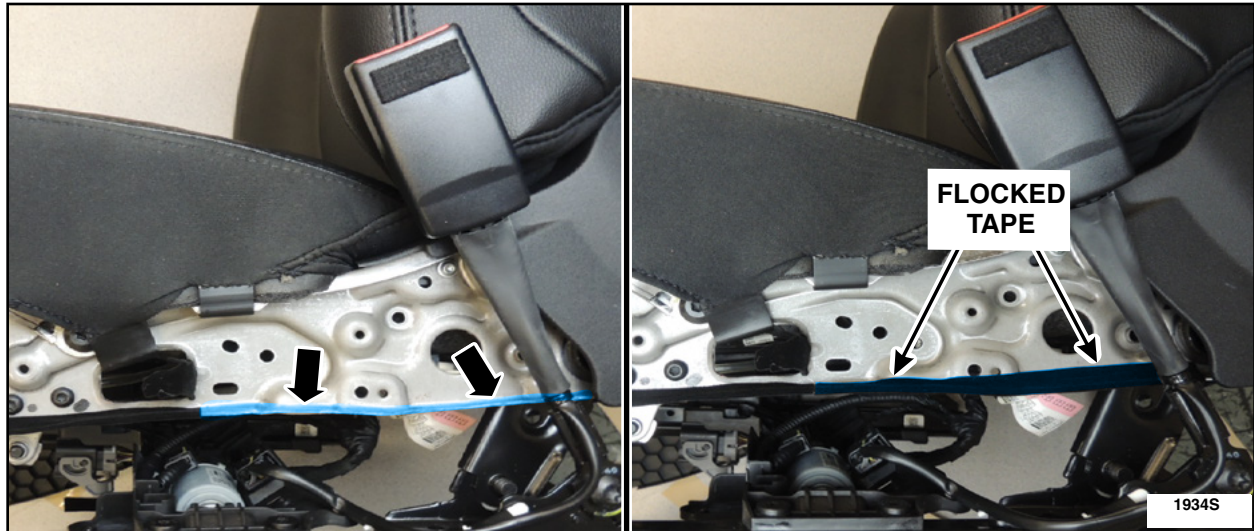

**FIGURE 9**
10. Using the 38.1 mm (1.5 in) piece of uncut flocked tape, peel the backing off and apply it to the middle tab. See Figure 9.